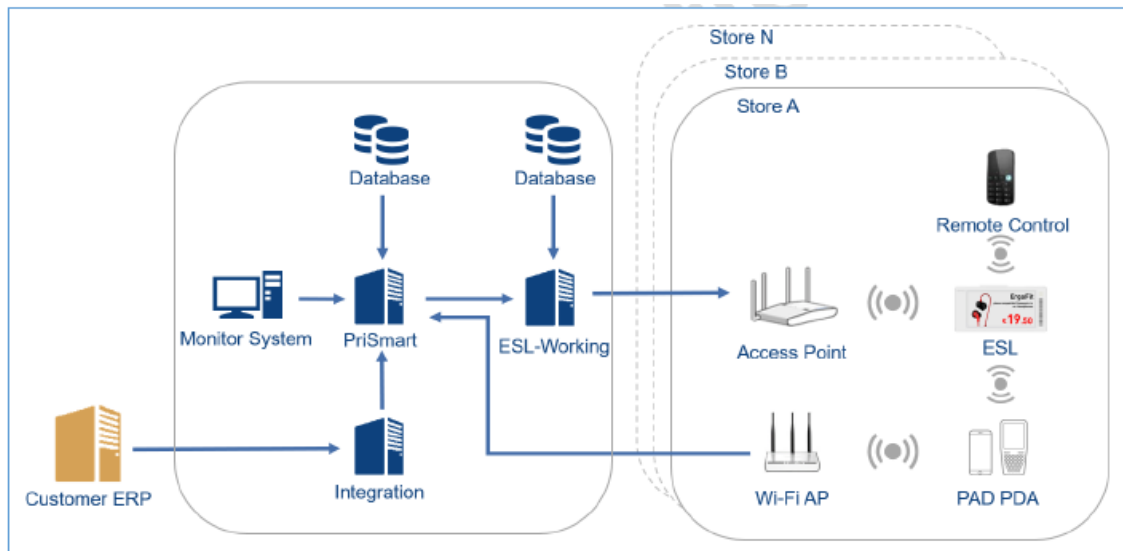

Figure 1-1 Hanshow ESL system architecture
2. Refer to Figure 1-1 for the ESL system architecture.
- Hanshow's ESL system is composed of ESLs, ESL Controller, ESL-Working, PriSmart, Database, Integration server, CloudMonitor, and Handheld Terminal (PDA), as shown in Figure 1-1.